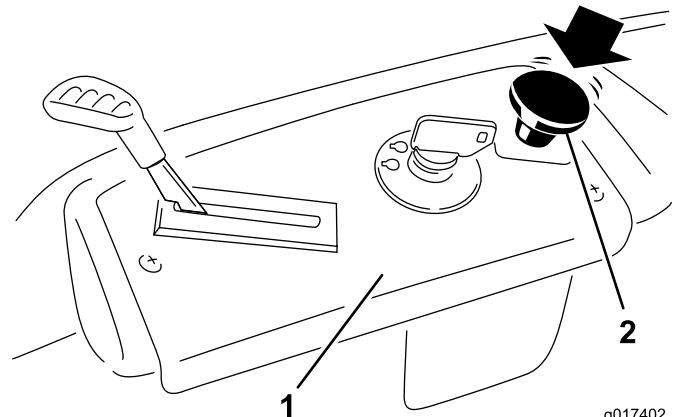

Figure 16
Push down on the blade-control switch to move it to the Off position, and disengage the blades (Figure 16).
1. Disengage the blades by moving the blade-control switch to Off (Figure 16).